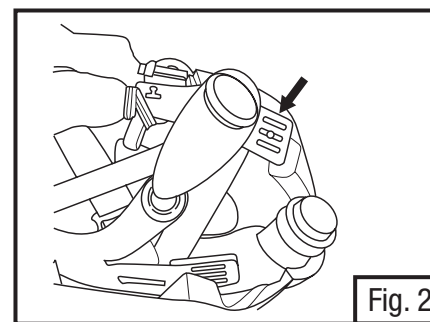

Fig. 2
- a. The suspension headband can be adjusted at four locations. There are two adjustment locations in the rear of the headgear and two in the front. To change the position of the headband, pull the height adjustment slot off the peg and re-position to another slot on the "ladder" (Fig. 2). Each location can be adjusted independently for a custom fit.